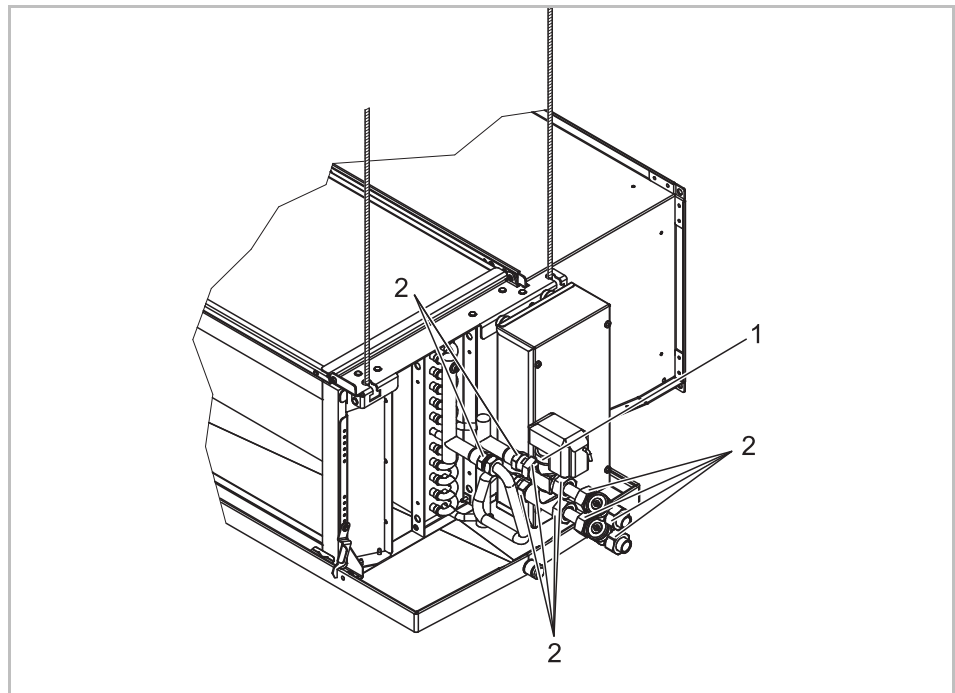

Fig. 7-1: Pre-commissioning checks:
- Manually check the mounting of actuators (Fig. 7-1, Pos. 1 sample).
- Tighten all screw connections on medium connections (Fig. 7-1, Pos. 2).